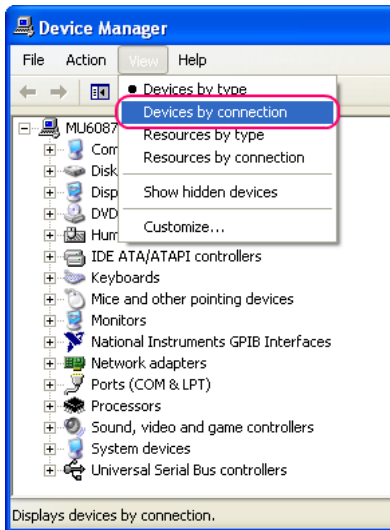

Fig. 1-8 Changing the view in Device Manager
2. Start the Device Manager and change the view by selecting **View - Devices by connection** (Fig. 1-8).